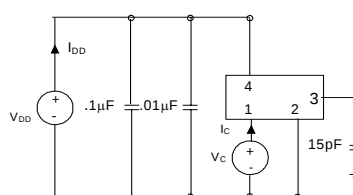

Figure 7. Output Waveform
2. Figure 7 defines these parameters. Figure 8 illustrates the operating conditions under which parameters are tested/specified.